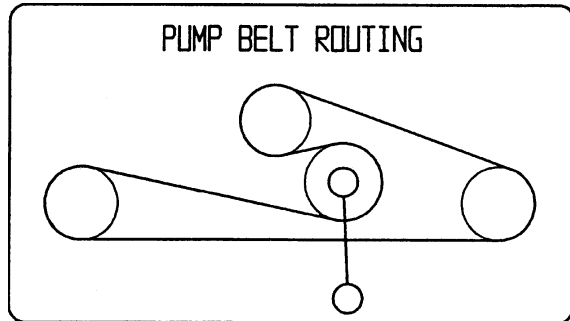

Figure 51
1. Pull spring loaded idler down and remove traction belt from the engine and hydro pump pulleys (Fig. 51). Remove belt between pulleys.
2. Install new belt around engine and hydro pump pulleys (Fig. 51).
3. Pull spring loaded idler down and align below traction belt. Release pressure on spring loaded idler (Fig. 51).